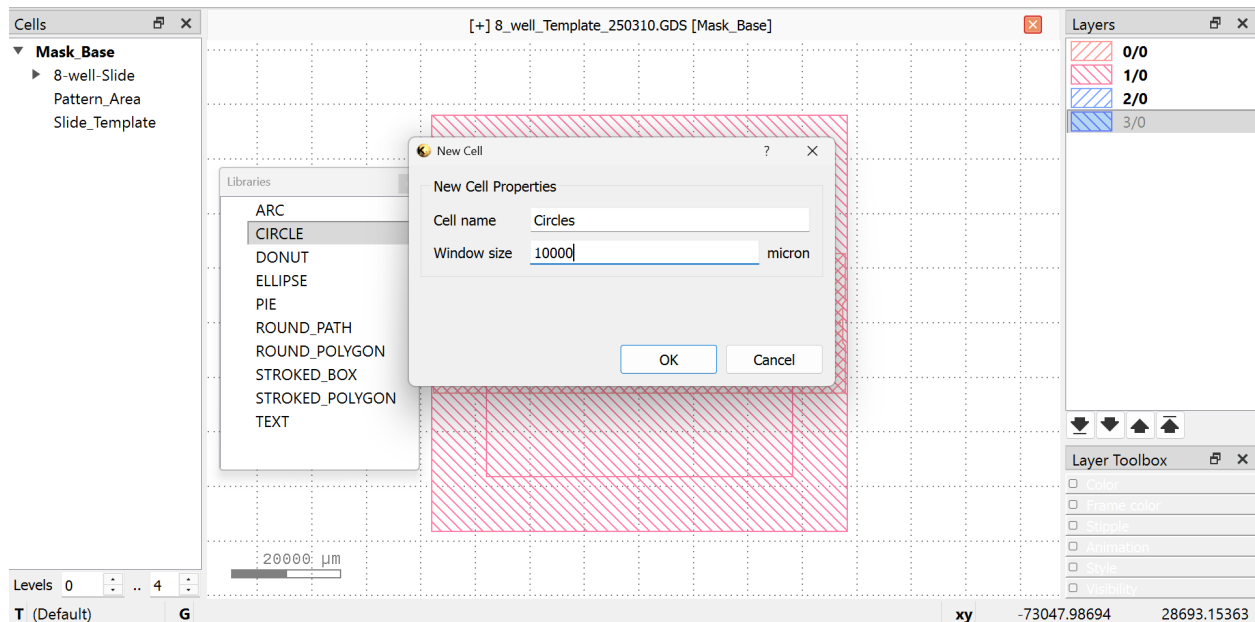

Figure 2: Creating a new cell containing the desired structure.
3. Name the cell appropriately and set a suitable window size for your structures (see Figure 2).